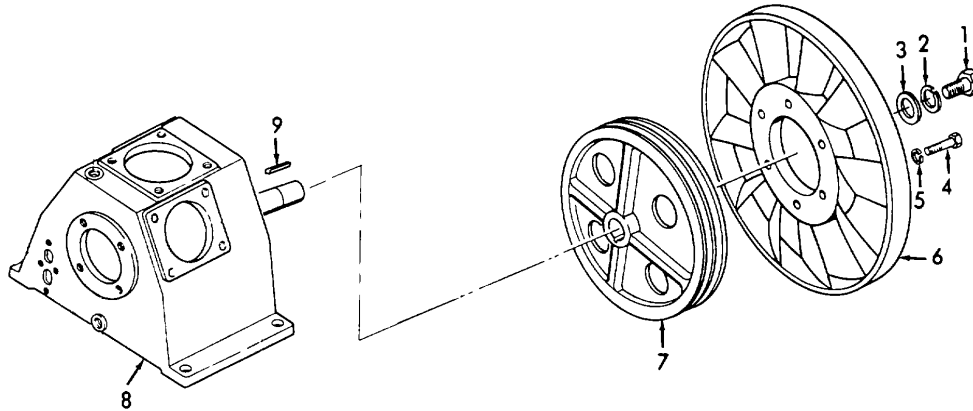

Figure 3-23. Compressor Pulley and Fan, Removal.
a. *Removal.* (Refer to Figure 3-23).